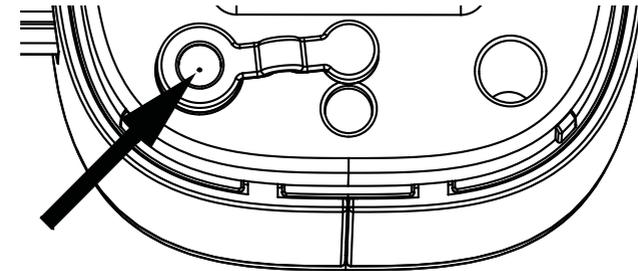

Fig. 1
1. **Important:** When the milk function can not come out the milk foam, please use a 0.2mm needle to unplug below air hole! (see Fig. 1)